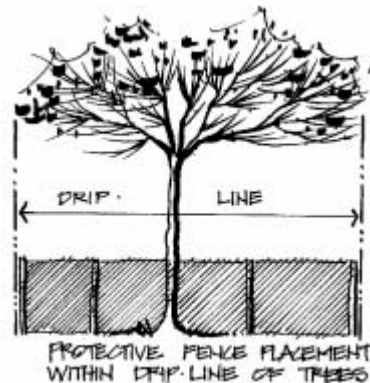

FIGURE 16-20
- a. Protective fence or barricade shall be placed around the drip line of trees to prevent storage of machinery, equipment or parking of cars which can cause soil compaction and mechanical damage. Placement should be at drip line of tree. See Figure 16-20.